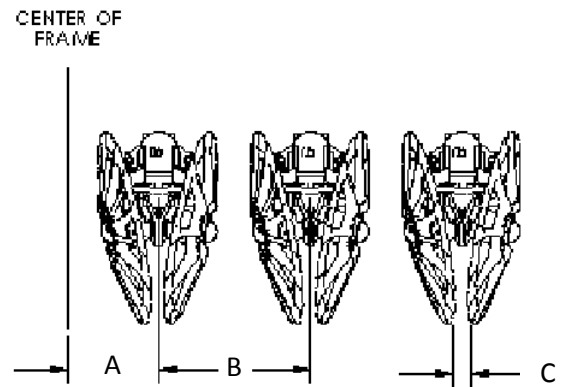

Figure 9: Lifter Strut Spacing
4.2.1 Lifter Strut Spacing: Verify the spacing matches the spacing of the planted crop as shown in Figure 9.
CAUTION: Valves (1 & 2) must be open prior to engaging the PTO, or system failure will occur. Valves in Figure 9 are shown in the open position.